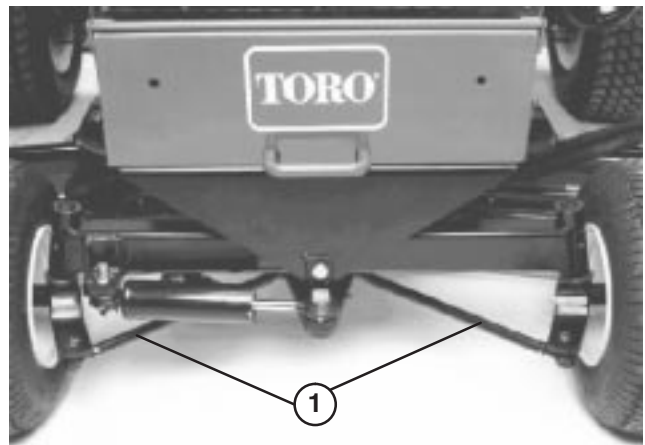

Figure 71
2. Loosen the jam nuts on both tie rods (Fig. 71). Adjust both tie rods equally until center-to-center distance at front of rear wheels is 0–1/8 in. (0–3 mm) less than at the rear of the wheels.